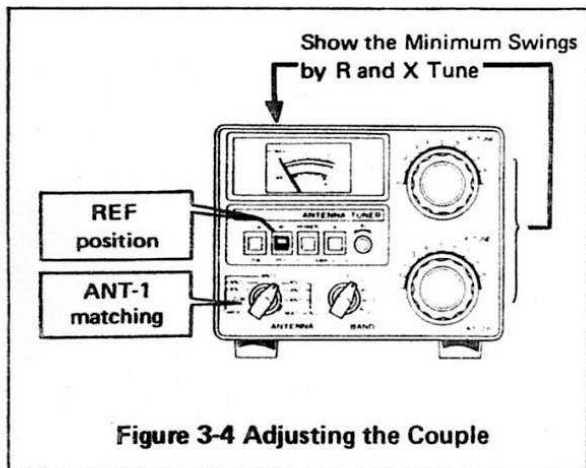

Figure 3-4 Adjusting the Couple
- Initially, set the BAND switch to the operating band as shown in Figure 3-4.